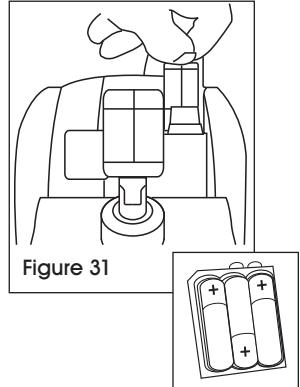

Figure 31
4. Unhook battery terminals and remove battery pack. Replace all 6 AA batteries with new batteries. (See Figure 31)